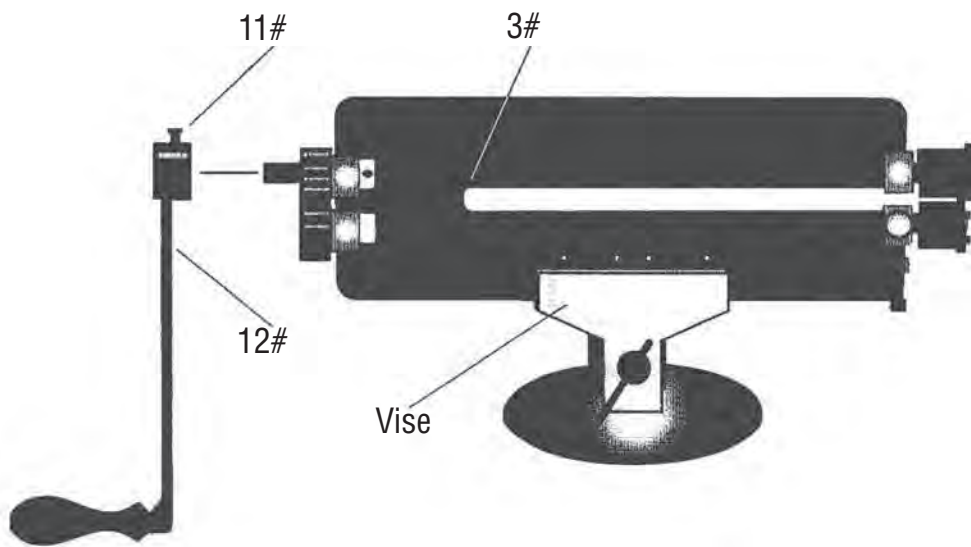

Figure 1
1. Place the Bead Roller Kit into a Vise as shown in **Figure 1** . Securely tighten the Vise to hold the machine .